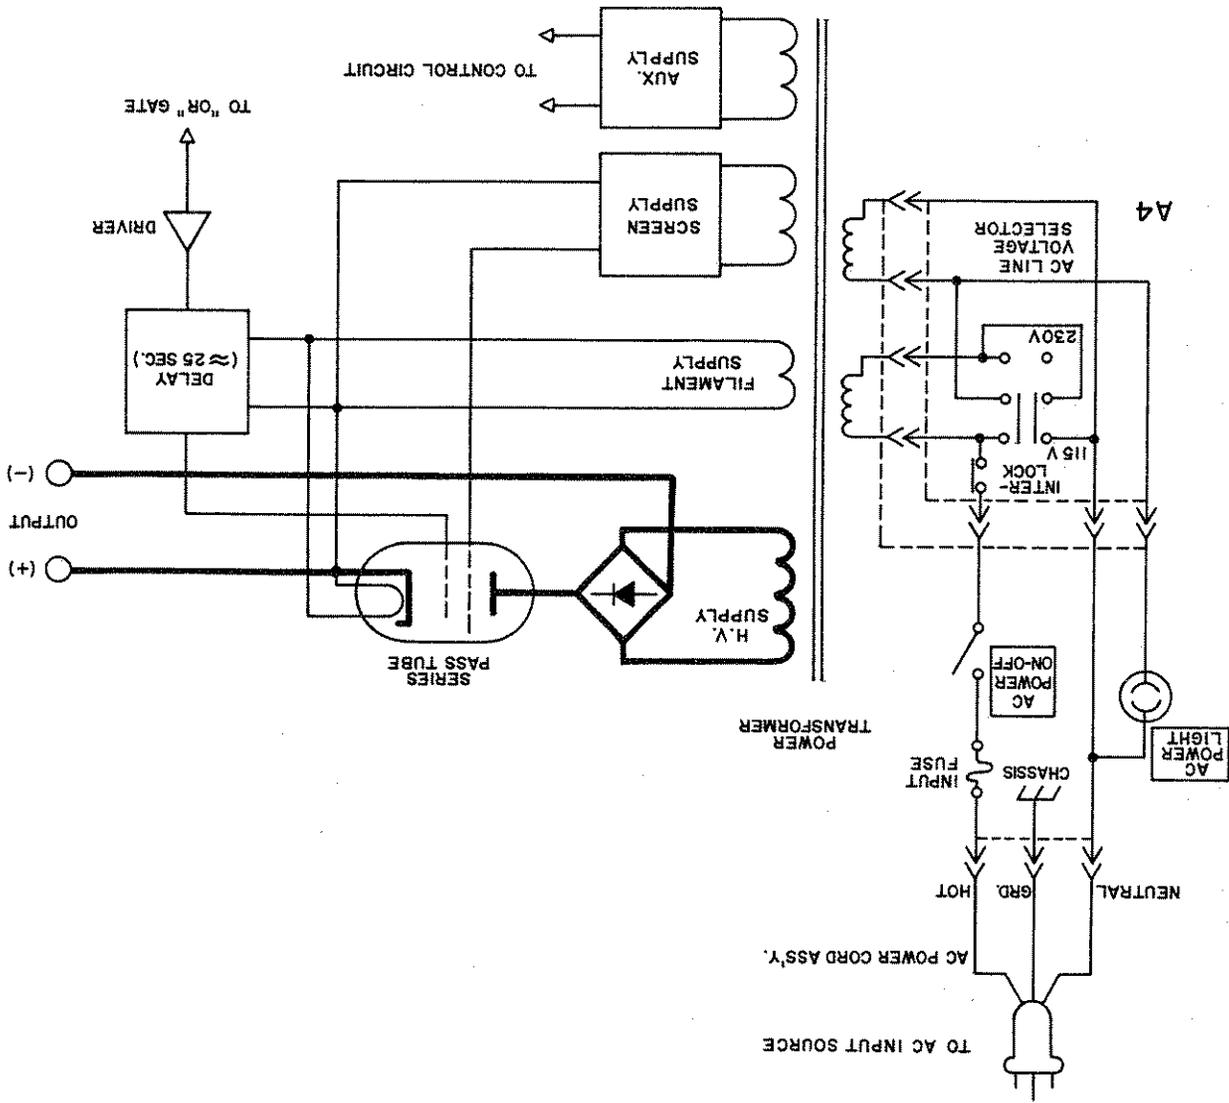

FIG. 4-3 SIMPLIFIED A-C INPUT CIRCUIT, APH POWER SUPPLY.
a) A-C INPUT CIRCUIT (Refer to FIG. 4-3). The a-c input power is introduced via the 3-wire line cord (detachable) with a 3-prong safety plug. The line cord ground wire (green), is directly connected to the metal chassis of the APH, providing automatic grounding of the APH case and chassis if a properly grounded a-c power outlet is used. The input fuse (F201) protects the APH from overloads reflected into the a-c input circuitry. The "hot" side of the a-c power line is connected to the transformer (T201) via the A-C POWER "ON-OFF" switch and the INTERLOCK switch (S401). The INTERLOCK switch serves to disconnect the a-c power from the APH if the protective rear cover is removed. The interlock function can be defeated by pulling the activating button completely outward. The POWER TRANSFORMER (T201) is equipped with dual primary windings, which are either operated in parallel (115V a-c nominal source voltage) or in series (230V a-c nominal source voltage). The APH can be readily connected for either source voltage by setting the A-C LINE SELECTOR SWITCH to the prevailing source voltage (see Section II of this manual). Once the APH is connected to the a-c source and the A-C POWER SWITCH (S201) is closed, the primary of the MAIN TRANSFORMER (T201) and the front panel A-C POWER LIGHT are energized. The output voltage is delayed for approximately 25 seconds to permit the warm-up of the filament on the SERIES PASS TUBE. Any interruption of a-c source voltage will necessitate a new 25 second delay cycle.